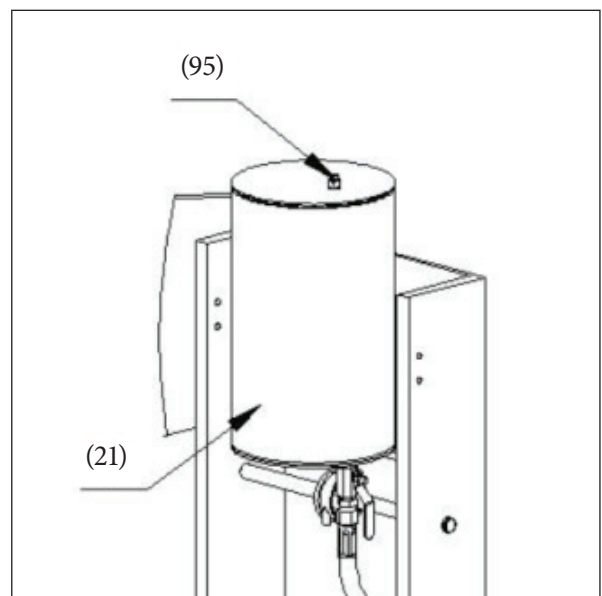

Fig. 19
- If the oil volume is low, add hydraulic oil to the oil tank as follows: remove the screw (95) on the oil tank, add hydraulic oil then tighten the screw (95) again. After adding the oil, perform air purge according to process. (Refer to Fig. 19)